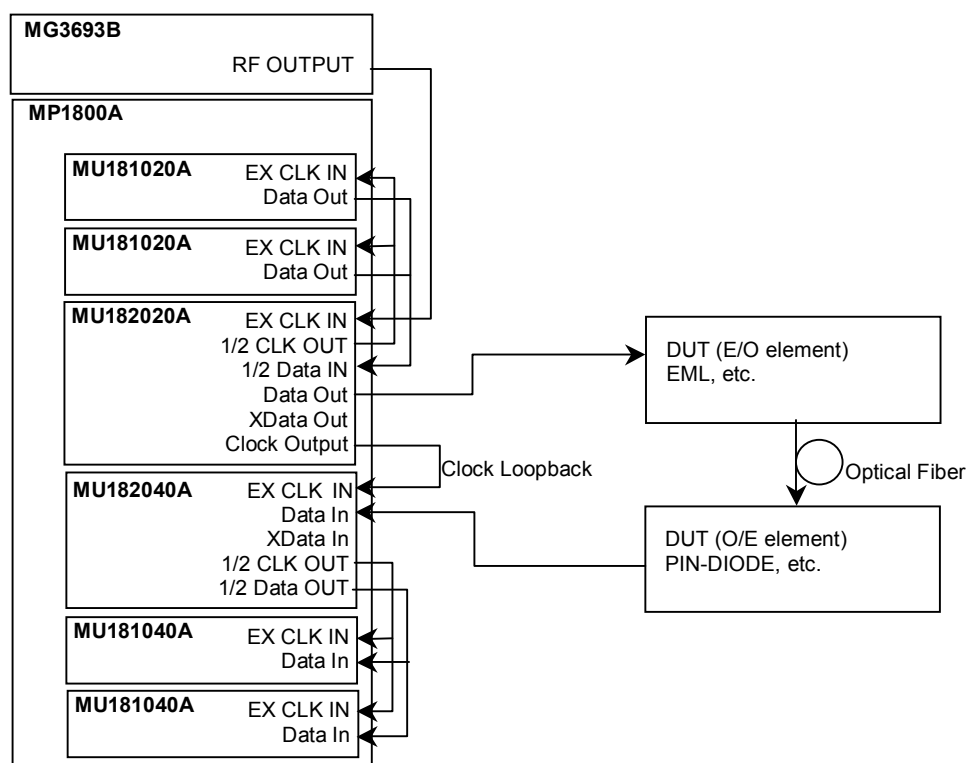

Fig. 5.1-1 Connection diagram for XFP module evaluation
- (1) Connect MP1800A, MU181020A/B, MU182020A, MU181040A/B, MU182040A, and MG3693B Signal Generator (hereafter, MG3693B), referring to Fig. 5.1-1.
- (2) When connecting this equipment and the MU181020A/B, the two MU181020A/B modules must be synchronized. (This equipment requires synchronization of the four MU181020A/B modules when using the MU182021A.)
At this time, short the cable cores, using a thin pointed metal stick such as tweezers before connection. See Fig. 5.1.1-1 for connection of the instruments.
- (1) Connect MP1800A, MU181020A/B, MU182021A, MU181040A/B, MU182041A, and MG3693B, referring to Fig. 5.1-1.
- (2) When connecting this equipment and the MU181020A/B, the four MU181020A/B modules must be synchronized. In addition, when connecting MU181040A/B and MU181041A, the four MU181040A/B modules must be synchronized. Press the [Combination] button for the module function and select 25G x 2 Ch Combination.
- (3) Match the data output interface of this equipment to the input of the DUT (DQPSK Precoder). The output is already off at this time.
- (4) Set the test pattern for the send side.